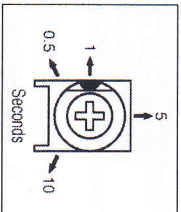

FIGURE 23 – ACCEL TRIMPOT RANGE
A. Acceleration (ACCEL) – Sets the amount of time for the motor to accelerate from minimum speed to maximum speed. The ACCEL trimpot is factory set for one (1) second, as shown in Figure 23. For more rapid acceleration time, rotate the trimpot counterclockwise. For longer acceleration time, rotate the trimpot clockwise.